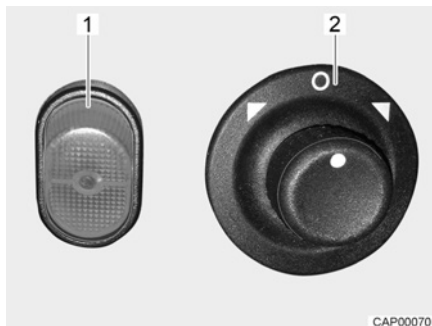

Fig. 14 Switch (electrically adjustable external mirrors)
- Select the mirror to be adjusted. To do so, turn the rotary switch (Fig. 14,2) to the left or right.
- Adjust the mirror. In order to do this, push the switch (Fig. 14,2) towards the desired direction.
- Press the switch (Fig. 14,1). The indicator lamp in the switch glows orange and indicates that the mirror heater is in operation.